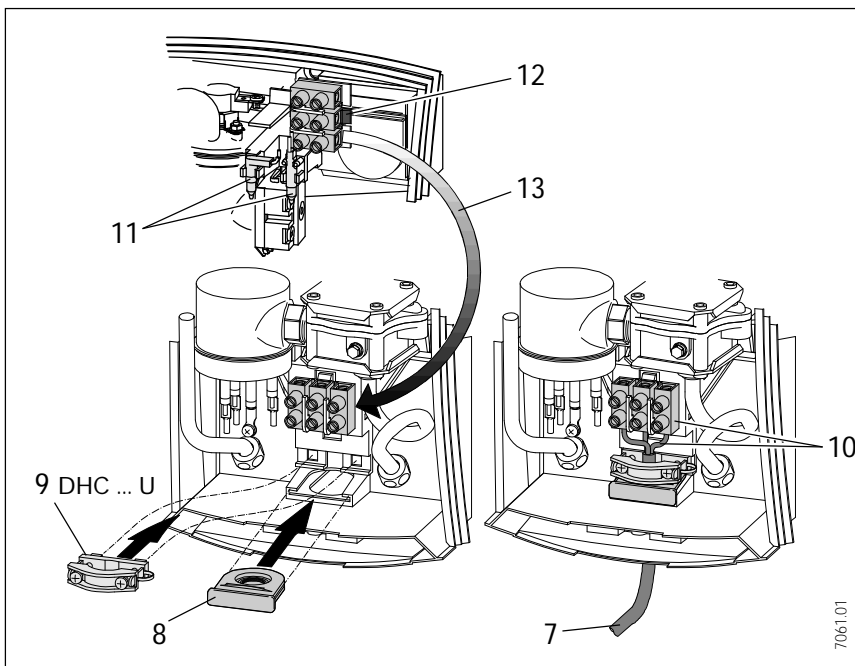
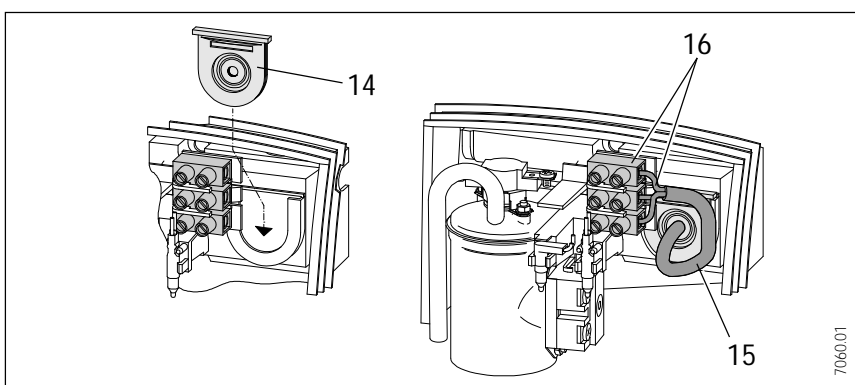

Fig. 16
Fig. 17
3. Cut electrical connection lead to length as per Fig. 16, and strip off the insulation (not required for DHC 3 U).
**⚠** To provide protection against the penetration of water, the cable seal (Fig. 16, Item 8, or Fig. 17, Item 14) must be used. Cut out the sealing diaphragm to fit the electric cable.
### DHC 3 U (Fig. 16)
### DHC 6 U (Fig. 16):
- Connection in the upper part of the unit/surface installation or concealed installation (Fig. 17).